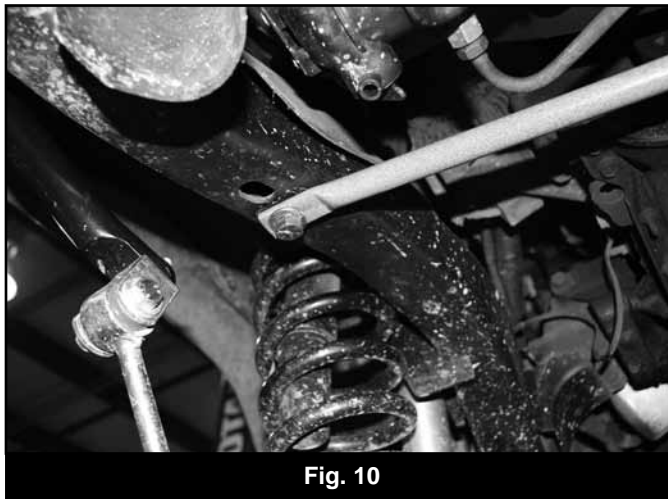

Fig. 10
19. Attach the support tube to the passenger's frame rail through the new lower hole and existing upper hole with a 1/2" x 5" bolt and 1/2" SAE washer (BP 766) run from the bottom up (Fig 10). Fasten the bolt on the top of the frame with a larger 1/2" washer and nut (BP 766).